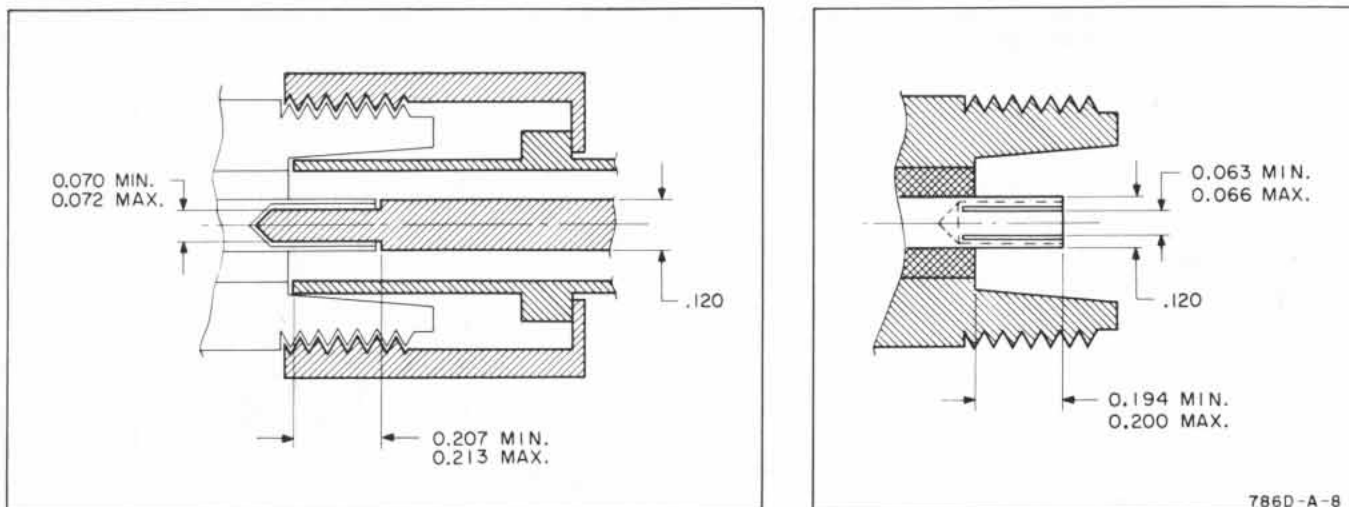

Figure 3. Precision Type N Connector Dimensions
a. The type N connectors are Φ precision type N connectors which are designed to mate with standard 50-ohm type N connectors. When mating with any other device equipped with Φ precision type N connectors, connector damage will result unless an adapter is used. Precision connector dimensions are given in Figure 3.
b. The detector element used is sensitive to either amplitude-modulated or continuous-wave (CW) RF power. If RF power is amplitude modulated at a 1000-cps $\pm 2\%$ rate, the sensitive Φ Model 415B or 415D (SWR Meter) can be used as the indicator. For CW detection, a DC milliammeter or millivoltmeter (with an input impedance of at least 100K ohms), such as the Φ Model 425A Microvolt-Ammeter can be used as the indicator.